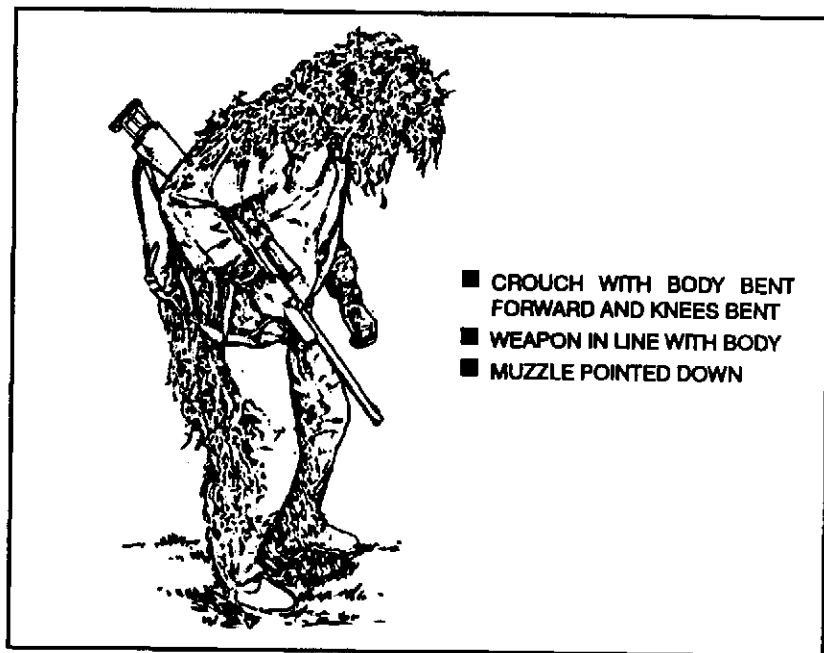

Figure 4-7. Walking.
e. **Walking.** Walking (Figure 4-7) is used when there is good concealment, it is not likely the enemy is close, and speed is required.